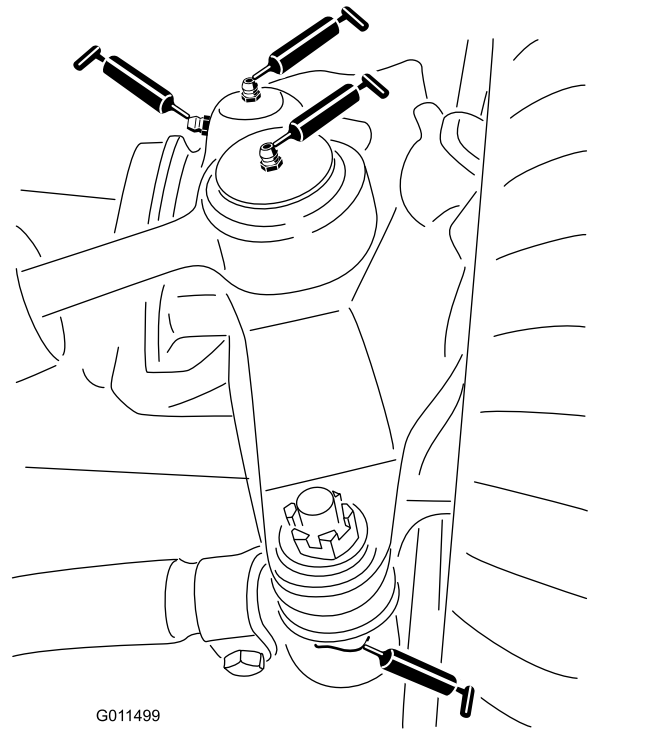

Figure 63
- 2 steering-cylinder-ball joints (Figure 63)
- 2 tie-rod-ball joints (Figure 63)
- 2 king-pin bushings (Figure 63).